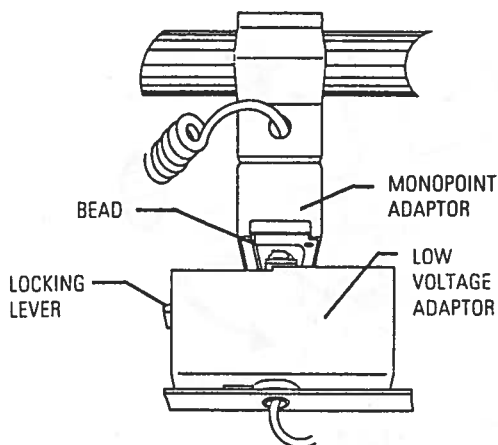

FIG. 8
1. Insert the LOW VOLTAGE ADAPTOR into the MONOPOINT ADAPTOR. The LOCKING LEVER must be on the same side as the BEAD located on the MONOPOINT ADAPTOR (See Fig. 8). Rotate the LOW VOLTAGE ADAPTOR 90 degrees clockwise to secure fixture and make electrical connection (See Fig. 8, 9 & 10).